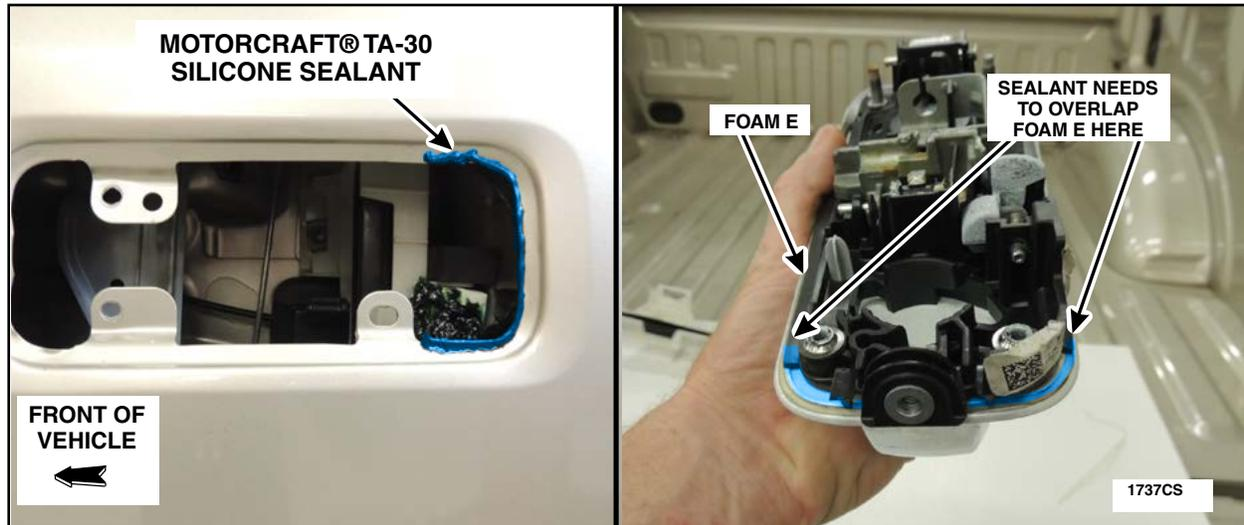

FIGURE 51
19. Apply a bead of Motorcraft® TA-30 silicone sealant to the latch side area of the front door exterior handle opening making sure that the sealant will overlap with the Foam E on the exterior door handle. See Figure 51.